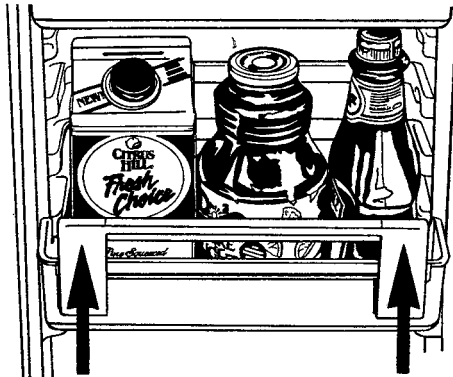

Figure 19.
- a. To remove, lift straight up. See Figure 19.